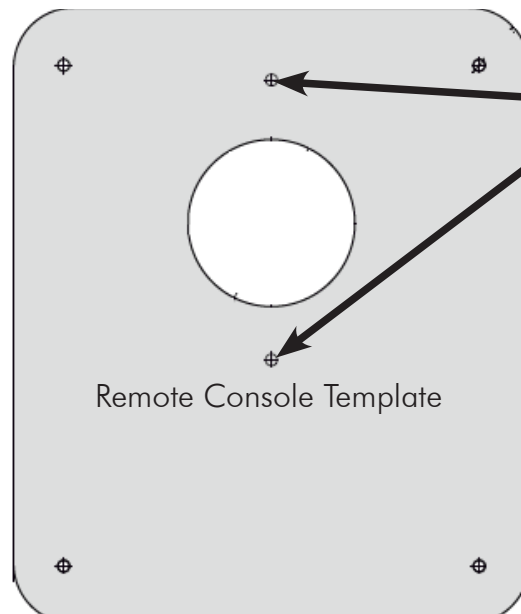

Figure 29: 2 Mounting holes
- Confirm the level of the template using spirit level. Mark the locations for the 2 mounting holes on the template and mark the wiring hole also at the locations shown in Figure 29 .